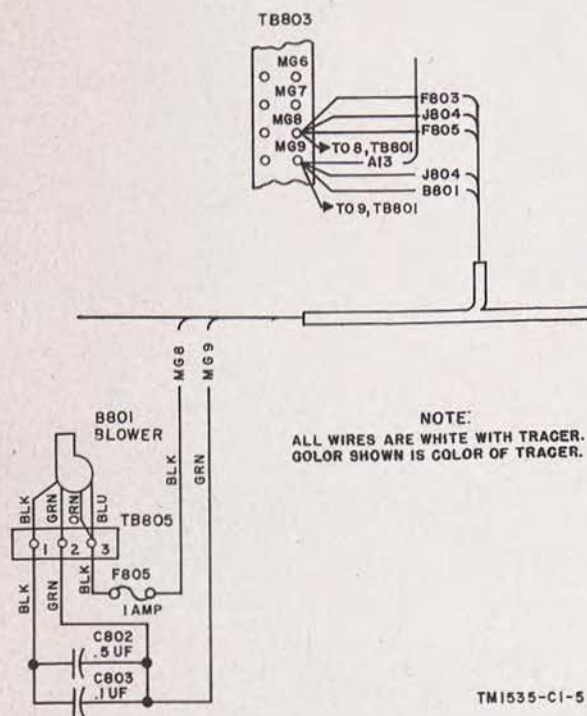

Figure 113.1. Receiver-transmitter (units bearing Order No. 28468-Phila-55), blower circuit, schematic diagram.
Page 115. Add figure 113.1 after figure 113.
5. ON RECEIVER-TRANSMITTERS BEARING ORDER NO. 28468-PHILA-55, BLOWER MOTOR B801 IS CONNECTED (IN SERIES WITH FUSE F805) ACROSS THE MOTOR-GENERATOR AC WINDING (TERMINALS 8 AND 9 OF TB601) AS SHOWN IN FIGURE 113.1. THE REST OF THE CIRCUITRY IS AS SHOWN.